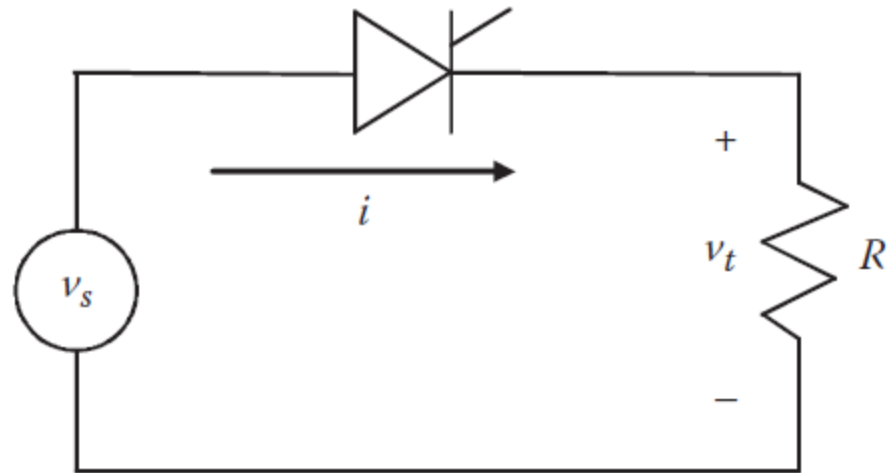

Figure 10.21 Half-wave SCR circuit.
- Half-wave rectifier, Figure 10.21